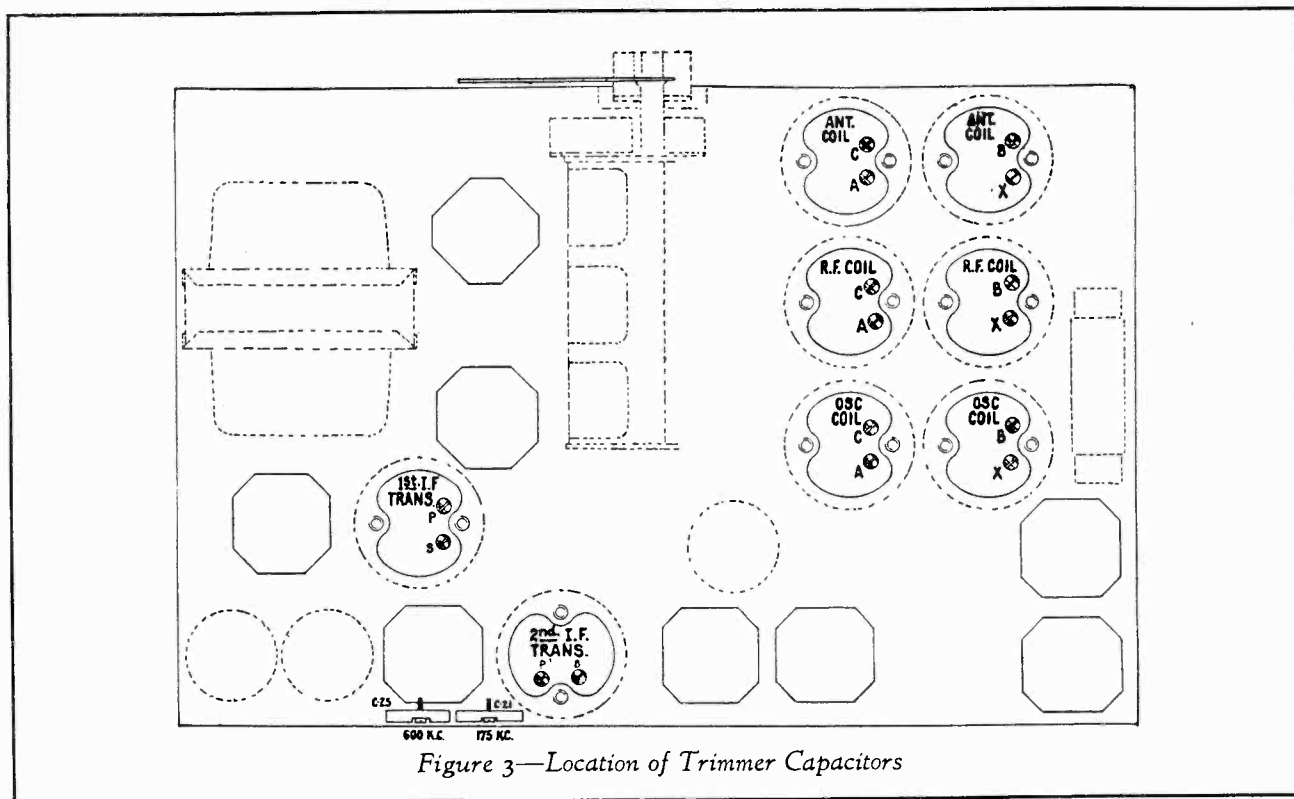

Figure 3—Location of Trimmer Capacitors
**(3) I. F. Tuning Capacitor Adjustments.** In this receiver there is a single i-f stage, including two coupling transformers. Trimmer condensers are used across both the primary windings and secondary windings, making a total of four adjustments. Each trimmer is designed for aligning its coil to 460 KC., the established i-f for this receiver. Adjustment of the i-f circuits should be performed in the following manner:
- (c) Adjust each i-f trimmer, shown in Figure 3, with an Alignment Tool until maximum receiver output is obtained.
**(4) R-F, Oscillator and First Detector Tuned Circuit Alignment.** Whenever the i-f line-up is corrected, it will be necessary to re-align r-f circuits preceding the first detector tube, as the correct operation of the receiver depends on the interlocking of the two.
The trimmer locations for each band are shown by Figure 3. They should be adjusted in the following manner: